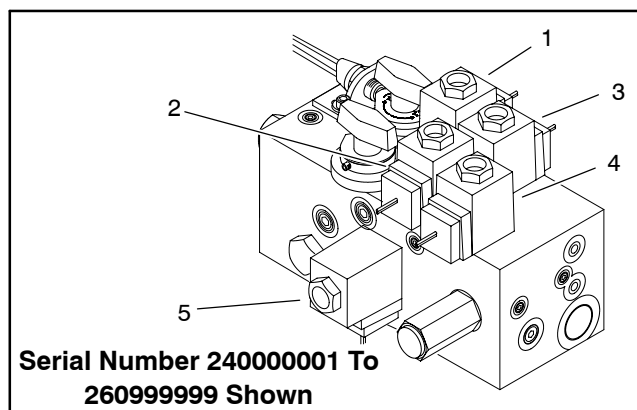
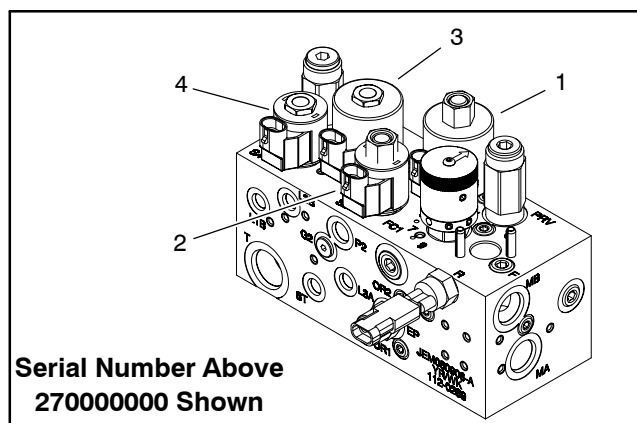

Figure 29
Figure 30
3. Measure resistance between the two solenoid coil connector terminals. The coil resistance for machines with serial numbers under 260999999 is identified in Figure 29. The coil resistance for machines with serial numbers above 270000000 is identified in Figure 30.